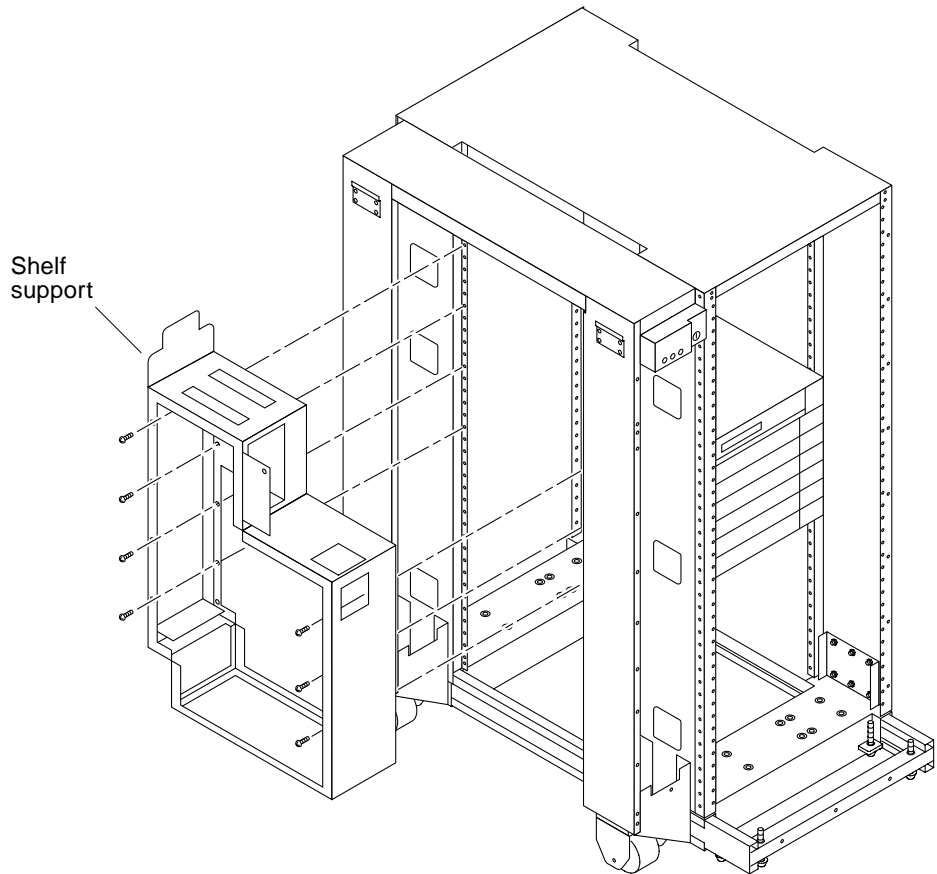

FIGURE 1-20 Removing the Shelf Support
2. Remove the screws at the rear flange of the shelf support (FIGURE 1-20).